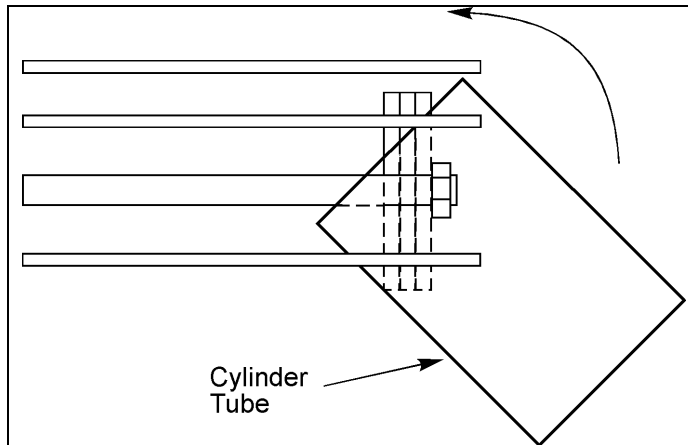

Figure 2 – Cylinder Tube Installation
8. Lubricate the inside of the cylinder tube and slide the cylinder over the piston. On cylinders with 6" and larger diameter, start the cylinder at a 45 angle to the piston as shown in Figure 2. (It will be necessary to remove several cylinder tie rods to provide clearance.)